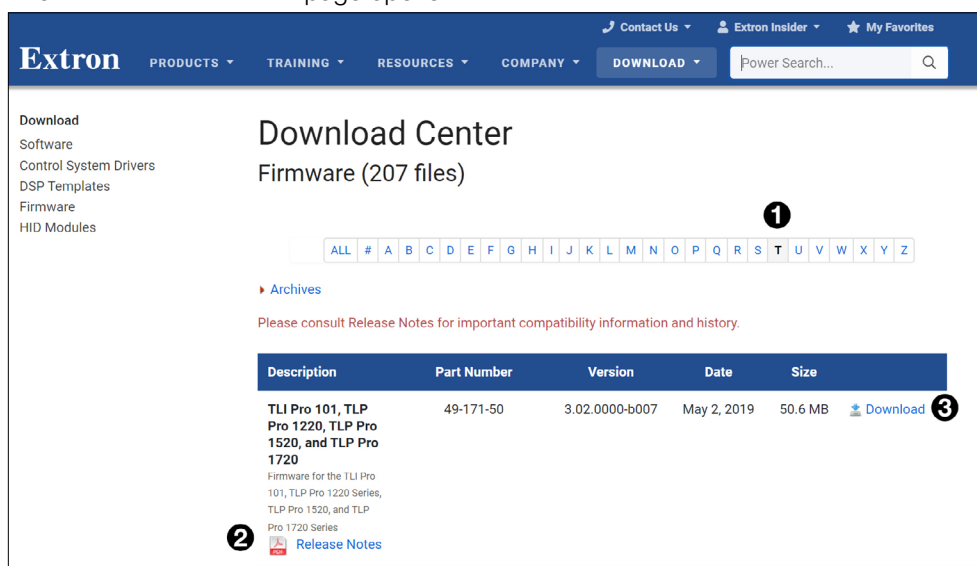

Figure 28. Selecting Firmware to Download.
6. (Optional) Click **Release Notes** for more information about the firmware (see figure 28, 2, on the previous page).